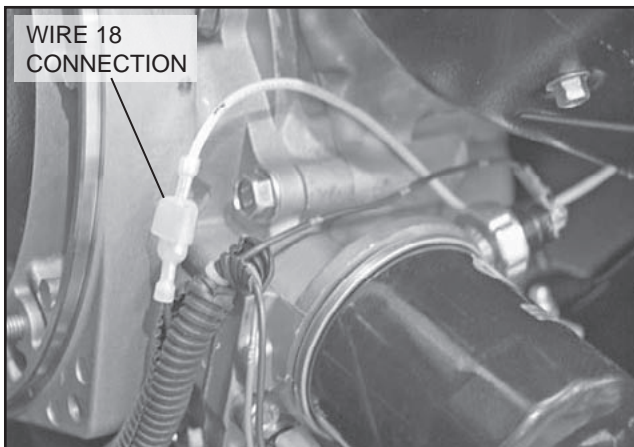

Figure 30. Wire 18 Connection 6/7 kW Units
- b. On single cylinder generators, disconnect Wire 18 at the bullet connector. See Figure 30.